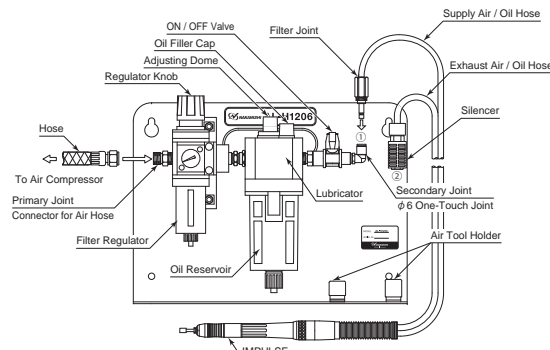

Fig. 15 Connecting to the Air Line Kit * AL - H1206 * (Option)
- Connect the Filter Joint of the Air Grinder to the Secondary Joint (φ6 One - Touch Joint) on the Air Line Kit (Fig. 15 ①).
- Place exhaust air / oil hose with silencer into an empty container (Fig. 15 ②) (Exhaust outlet air and oil from the Silencer).